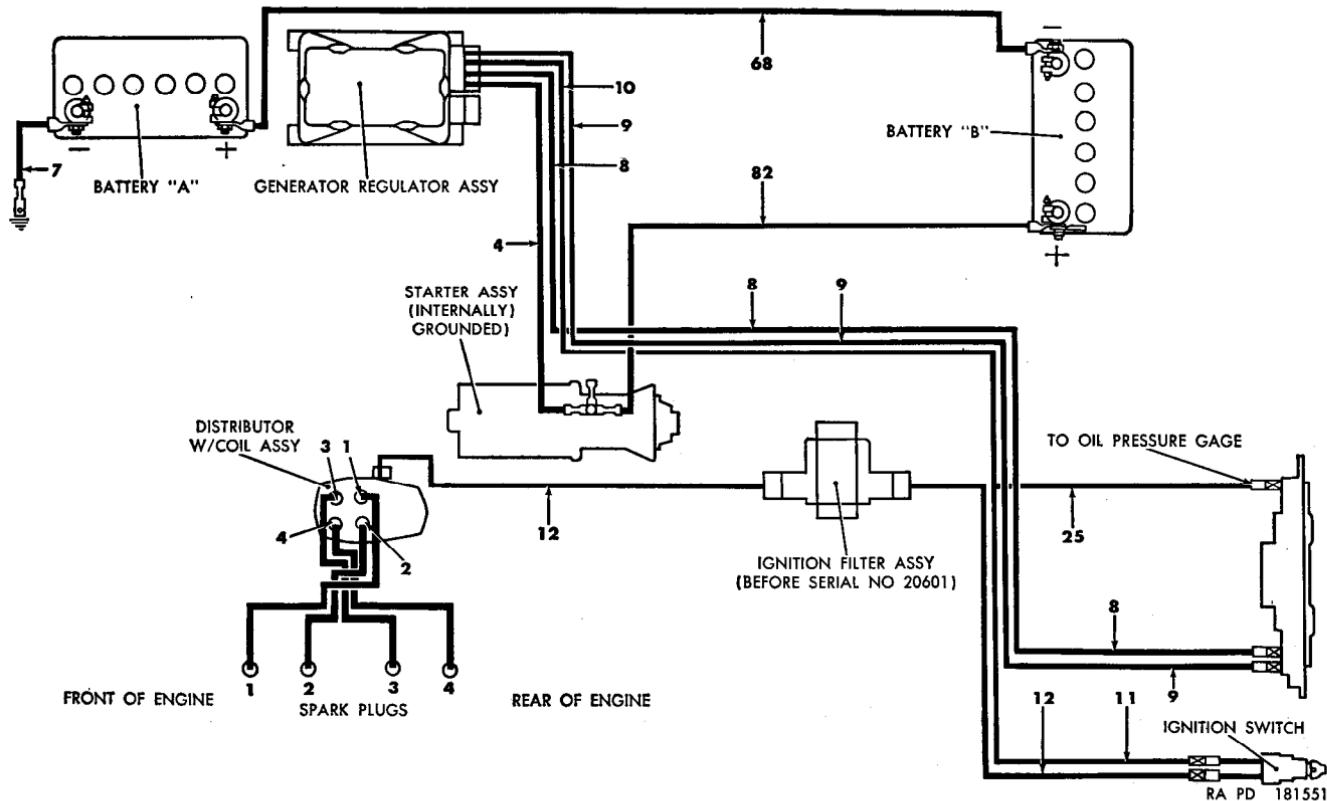

Figure 54. Ignition system circuit.
(1) *General.* The ignition system (fig. 54) consists of the batteries, ignition switch, distributor with coil assembly, spark plugs, and primary and secondary circuit cables. The distributor with coil assembly supplies high voltage current to the spark plugs at timed intervals. The entire system is shielded for radio interference suppression and is completely waterproofed.
- (5) *Circuits* (fig. 54). There are two distinct circuits in the ignition system, the primary circuit and the secondary circuit. The primary, or low voltage circuit, consists of the batteries, ignition switch, distributor points, capacitor, and the primary winding of the ignition coil. The secondary, or high voltage circuit, consists of the secondary winding of the ignition coil, distributor rotor, distributor cover assembly, distributor cap assembly, spark plug cable assemblies, and spark plugs.
- (2) *Installation.* Place the rotor on top of the cam, with the flat spot in the bore of the rotor alined with the flat spot on the cam. Press the rotor into place by hand. Do not hammer on top of the rotor. Install the distributor cover and cap assemblies (par. 142f).
e. Ignition Filter Assembly (fig. 54).
- (1) Mark the spark plug cable assemblies for identification at installation.
- (2) Unscrew the terminal nuts securing the spark plug cable assemblies to the distributor cover assembly, and disconnect the cable assemblies.
- (3) Unscrew the nut securing the distributor-to-carburetor air intake pipe vent line assembly to the connector on the distributor, and pull the line from the connector. Unscrew the connector. Unscrew the nut securing the distributor-to-windshield wiper fitting vent line assembly to the elbow and pull the line from the elbow. Unscrew the elbow.
- (4) Unscrew the nut securing cable No. 12 (fig. 54) to the wiring harness filter receptacle assembly, and disconnect the cable.
- (5) Remove the mounting clamp screw and flat washer securing the distributor with coil assembly to the spark advance control arm, located under the distributor. Remove the distributor by lifting up and toward the right side of the vehicle. Do not lose the spark advance control arm thrust washer located between the distributor and the spark advance control arm.